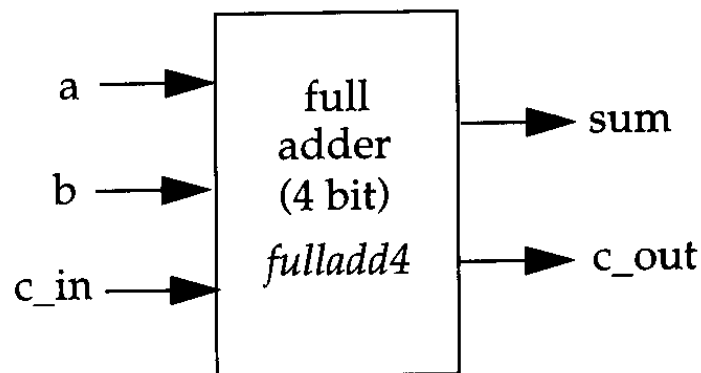

Fig.3.13: 4-bit adder
- The dataflow description for the 4-bit adder shown in fig.3.13 is given below.